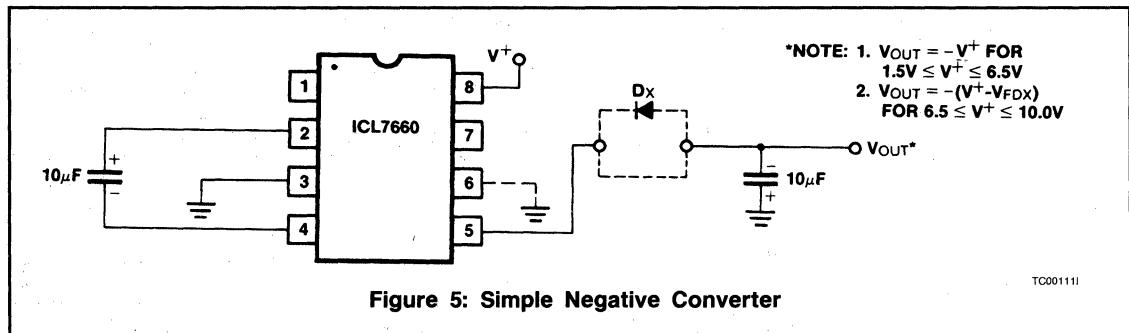
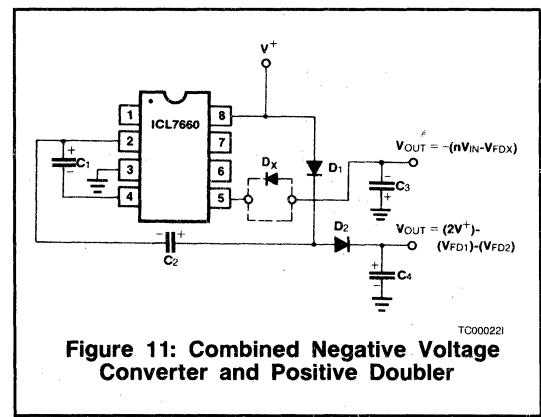

Figure 5: Simple Negative Converter
Figure 11: Combined Negative Voltage Converter and Positive Doubler
The majority of applications will undoubtedly utilize the ICL7660 for generation of negative supply voltages. Figure 5 shows typical connections to provide a negative supply where a positive supply of +1.5V to +10.0 volts is available. Keep in mind that pin 6 (LV) is tied to the supply negative (GND) for supply voltages below 3.5 volts, and that diode Dx must be included for proper operation at higher voltages and/or elevated temperatures.
The output characteristics of the circuit in Figure 5 are those of a nearly ideal voltage source in series with 55 ohms. Thus for a load current of -10mA and a supply voltage of +5 volts, the output voltage will be -4.3 volts. The dynamic output impedance due to the capacitor impedances is approximately $1/\omega C$, where:
Figure 11 combines the functions shown in Figures 5 and 10 to provide negative voltage conversion and positive voltage doubling simultaneously. This approach would be, for example, suitable for generating +9 volts and -5 volts from an existing +5 volt supply. In this instance capacitors C_1 and C_3 perform the pump and reservoir functions respectively for the generation of the negative voltage, while capacitors C_2 and C_4 are pump and reservoir respectively for the doubled positive voltage. There is a penalty in this configuration which combines both functions, however, in that the source impedances of the generated supplies will be somewhat higher due to the finite impedance of the common charge pump driver at pin 2 of the device.